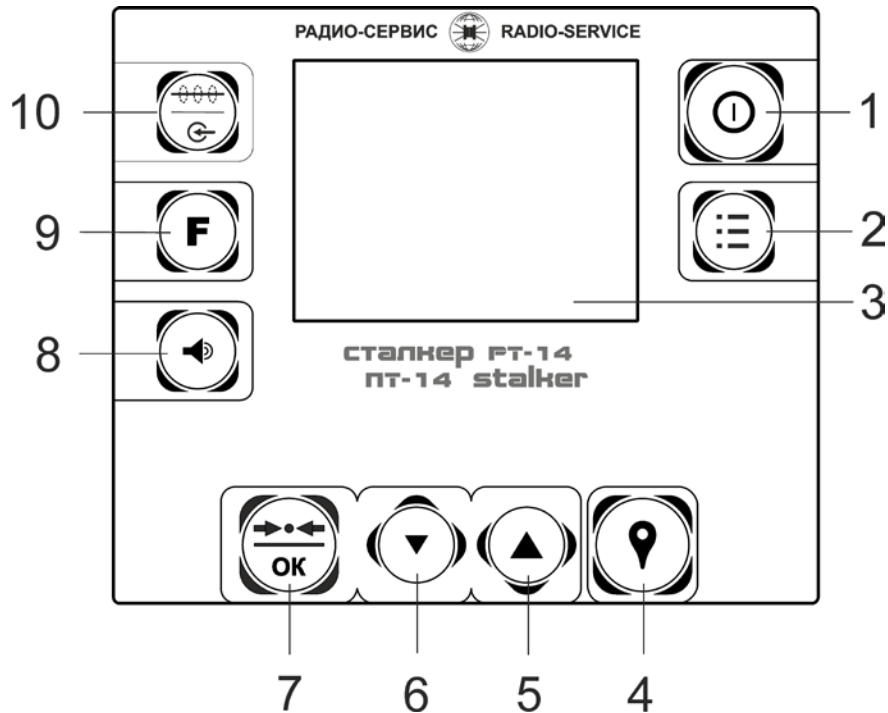

Figure 1.4.2 - Front panel of the locator
1.4.2 The front panel of the locator is shown in Figure 1.4.2.